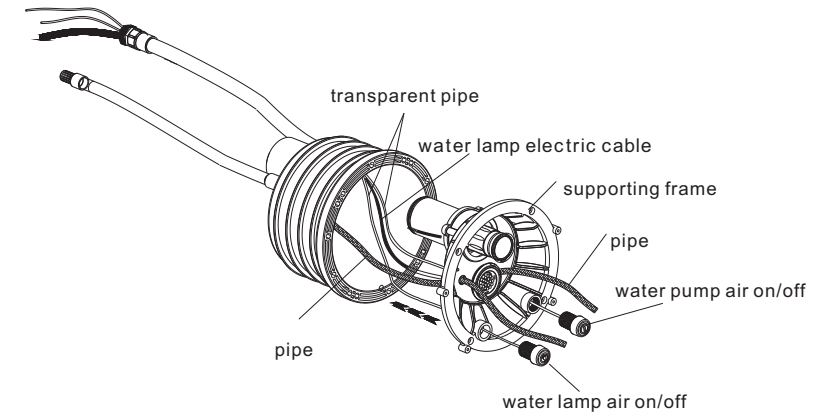

Figure 9
- 1) first use  $\phi 5$  transparent air tube and LED light cable respectively to pass through the connecting tube, then connect the two air pipes to the pump switch and pool light air switch respectively. ( Figure 9)